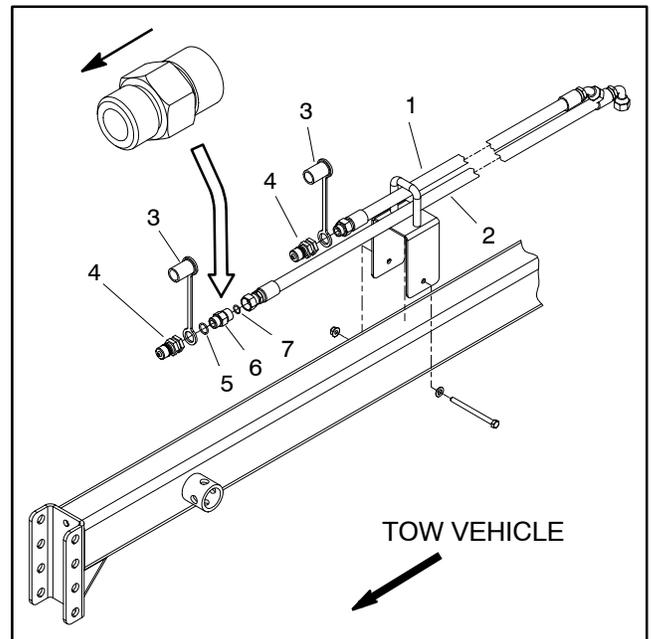

Figure 1
The hydraulic hose kit used when a ProPass receives its hydraulic supply from a tow vehicle includes a check valve in the return hose assembly (item 6 in Figure 1). If the check valve is removed from the return hose, make sure that the arrow on the check valve is directed toward the tow vehicle. Also, when connecting the hydraulic hoses to the tow vehicle, use the check valve to identify the return hose for correct installation.